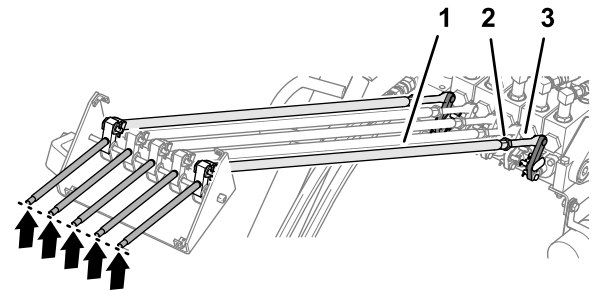

**Figure 28**
3. At the control valve, assemble the control-rod link onto the clevis pin that is pressed into the control lever (Figure 28).
5. If the lever for the control rod is not aligned with the rest of the levers, separate the control-rod link from the control lever clevis pin, rotate the control-rod link to align the lever (Figure 29), and assemble the control-rod link to the control lever clevis pin (Figure 28).